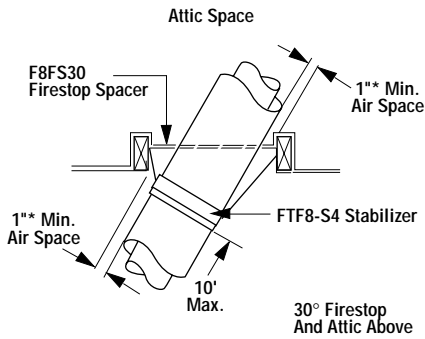
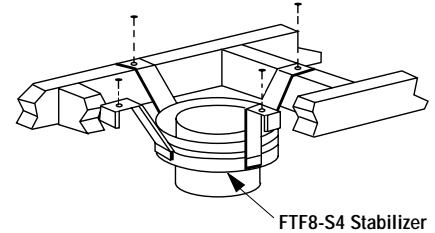

Figure 21
Figure 26
It may be necessary to assemble the chimney at 30° when passing through the floor or ceiling area. Use the F8FS30 firestop spacer as shown in Figures 21 and 22. Support the chimney at floor or ceiling penetration with a FTF8 stabilizer if distance of chimney below ceiling is 10' or more. Maintain 1" minimum air space to combustibles from chimney sections.
Install the Model FTF8-S4 stabilizer by fitting inner section down into respective section of proceeding flue pipe and locking outer stabilizer section into place over the outer chimney pipe. Position for proper clearance through framed opening and nail straps securely (under tension in "shear") into place on framing. Use 8d nails. Attach successive lengths of chimney pipe directly to stabilizer using same techniques as described in Step 4 (Figure 26).
Step 1. Use Offset Chart to determine amount of horizontal offset (A) and height (B) for various chimney section assemblies.
Step 3. Use Elevation Chart as job estimator only. Add necessary firestop spacers and stabilizers as required. Firestop spacers must be used as shown in *Figures 21 and 22* and stabilizers as shown in *Figure 26*.